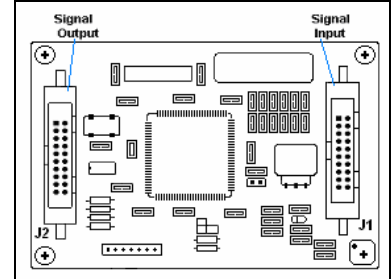

Figure 14: Shift Board
2. A ribbon cable should already be plugged into the “Signal In” jack on the shift board (**Figure 14**) of the first echo section. If it isn’t, do so at this time.